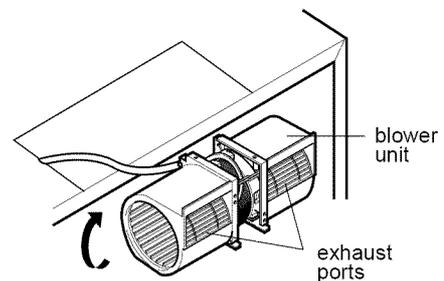

Figure 15
5. Rotate the unit so that the exhaust ports face the rear of the cabinet. See Figure 15. When you insert blower unit, blower wire must be like figure 15.